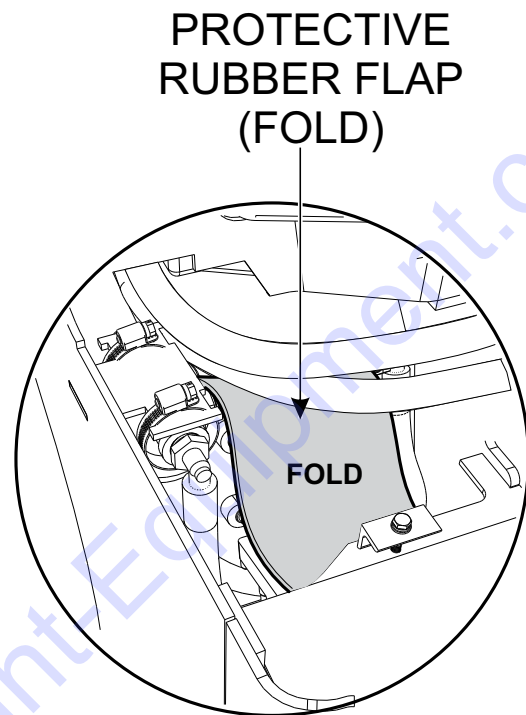

Figure 11. Folding Rubber Flap
1. Fold the protective rubber flap over the pump to protect it from water (Figure 11).